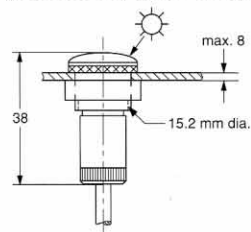

Fig. 2: Mounting of "panel front face" type photocell cat. No. 15281.
- "panel front face" type: see fig. 2,